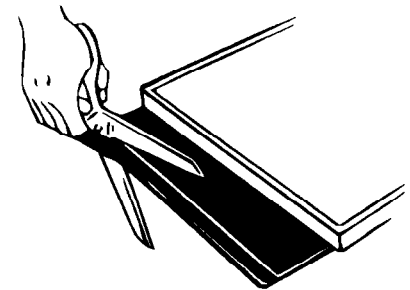

Figure 2
- Use scissors or utility knife to cut toe plate along line. (See Figure 2.)